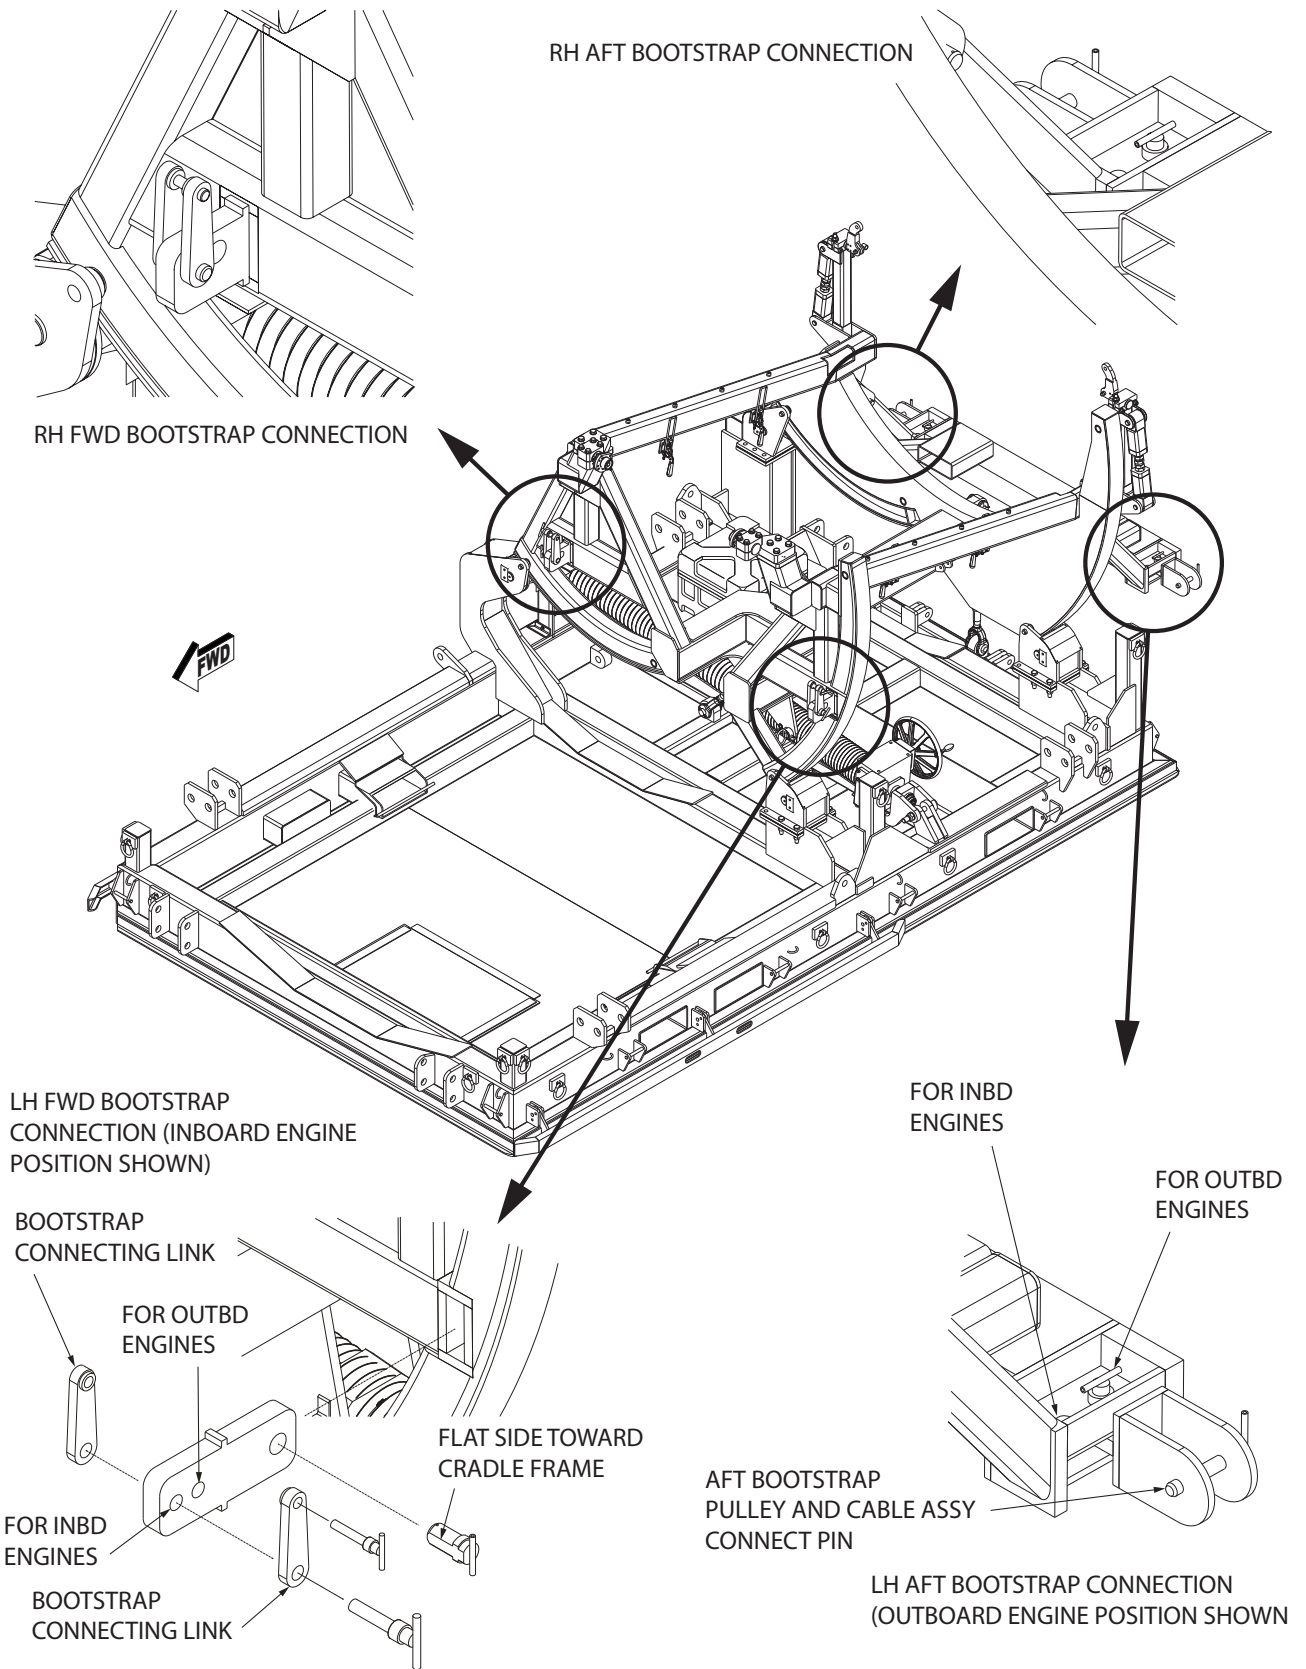

Figure 5.3.2.1 Bootstrap Connections
- 2) Attach FWD bootstrap dynos to hoists and cradle connecting links. (Figure 5.3.2-1)
- 3) Attach AFT bootstrap pulley/cable assembly to cradle AFT bootstrap pulley brackets with pins. Connect RH cable end to hoist. Connect LH cable end to bootstrap dyno, connect dyno to hoist. (Figure 5.3.2-1)
- 6) Disconnect FWD and AFT shipping braces, remove AFT capture roller (requires hand tools), remove 4 cradle-to-base pins (may require rotating cradle to loosen pins). Tension hoist chains until cradle begins to lift. (Figure 5.3.2-2)
- 7) Pivot jack screw support to upright position and pin. Extend inner support and pin. Remove two jack screw nut to cradle pins (Figure 5.3.2-2). The cradle is ready to be raised from base. Place all required tools and parts on the safety kit platforms. Installation mechanics, maximum 3 per side, should position themselves on the platform FWD, center and AFT. **Note:** The platforms have access gates at the AFT ends.